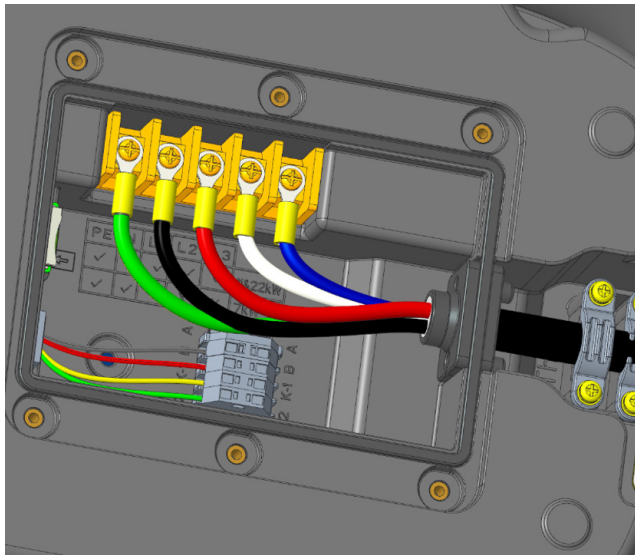

Figure A-7 11kW wiring diagram
8. The 11kW charger is connected with 5 entry cables, as shown in Figure A-7 below.